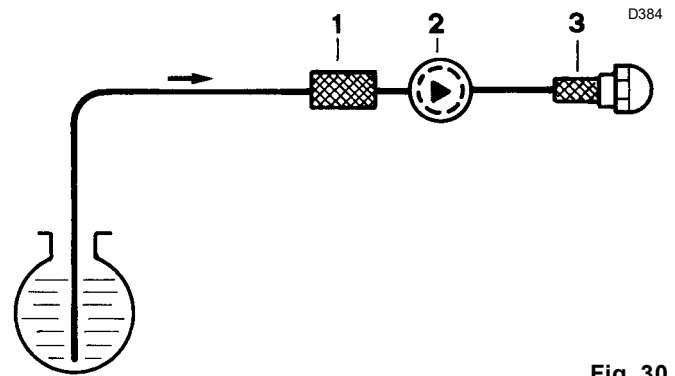

Fig. 30
- on line 1) - in the pump 2) - at the nozzle 3) (Fig. 30)